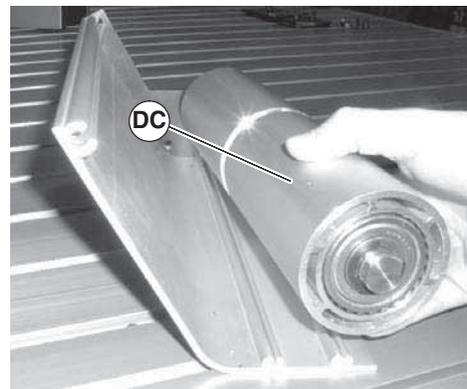

Figure 91
5. Slide the idler pulley assembly (Figure 91, item DC) out of the idler guide side plate on the opposite side.